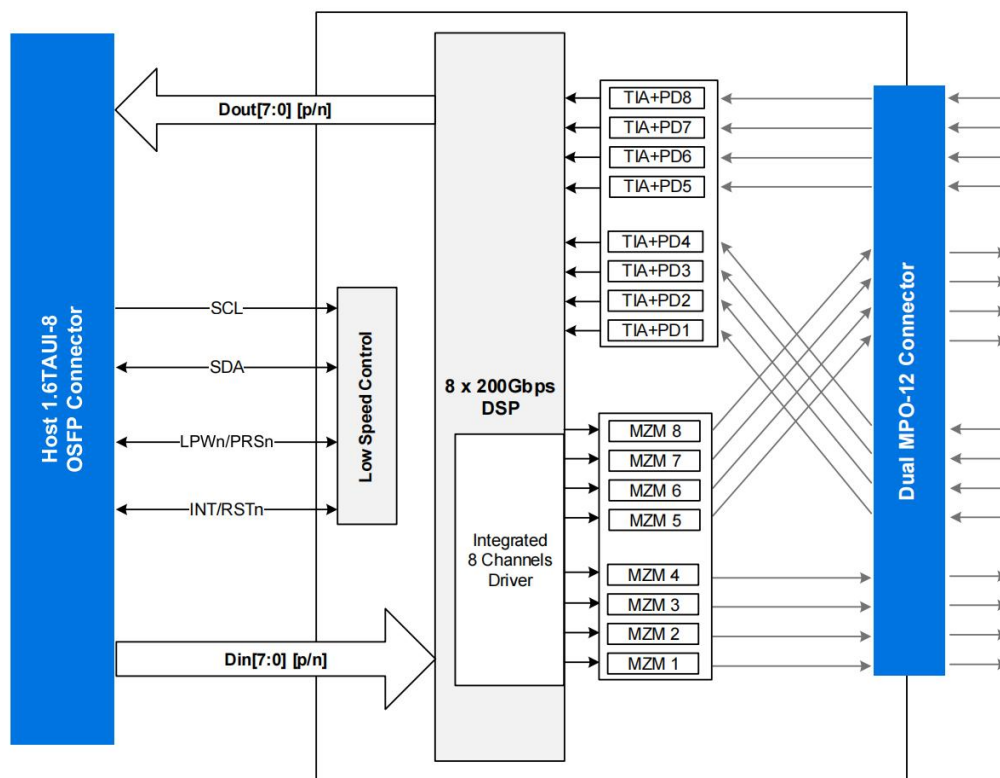

Figure 6 Transceiver Block Diagram
As shown in Figure 6, the transmitter path of the transceiver contains an 8x200Gbps 1.6TAUI-8 electrical input with Equalization (EQ) block, integrated electrical multiplexer, integrated 8 Channels driver, externally modulated lasers and diagnostic monitors. The integrated electrical multiplexer and integrated driver converts 8 channels of 200Gbps (PAM4) electrical input data to 8 channels of 200Gbps (PAM4) parallel optical signals. The transmitter complies with EN 60825 and CDRH Class 1 human eye safety compliance.
As shown in Figure 6, the receiver path of the transceiver contains 8 PIN photo diodes, trans-impedance amplifiers (TIA), 8 x 200G 1.6TAUI-8 compliant electrical output blocks. The PIN-TIA converts 8 channels of 200Gbps (PAM4) parallel optical signals to 8 channels of 200Gbps (PAM4) electrical output data.